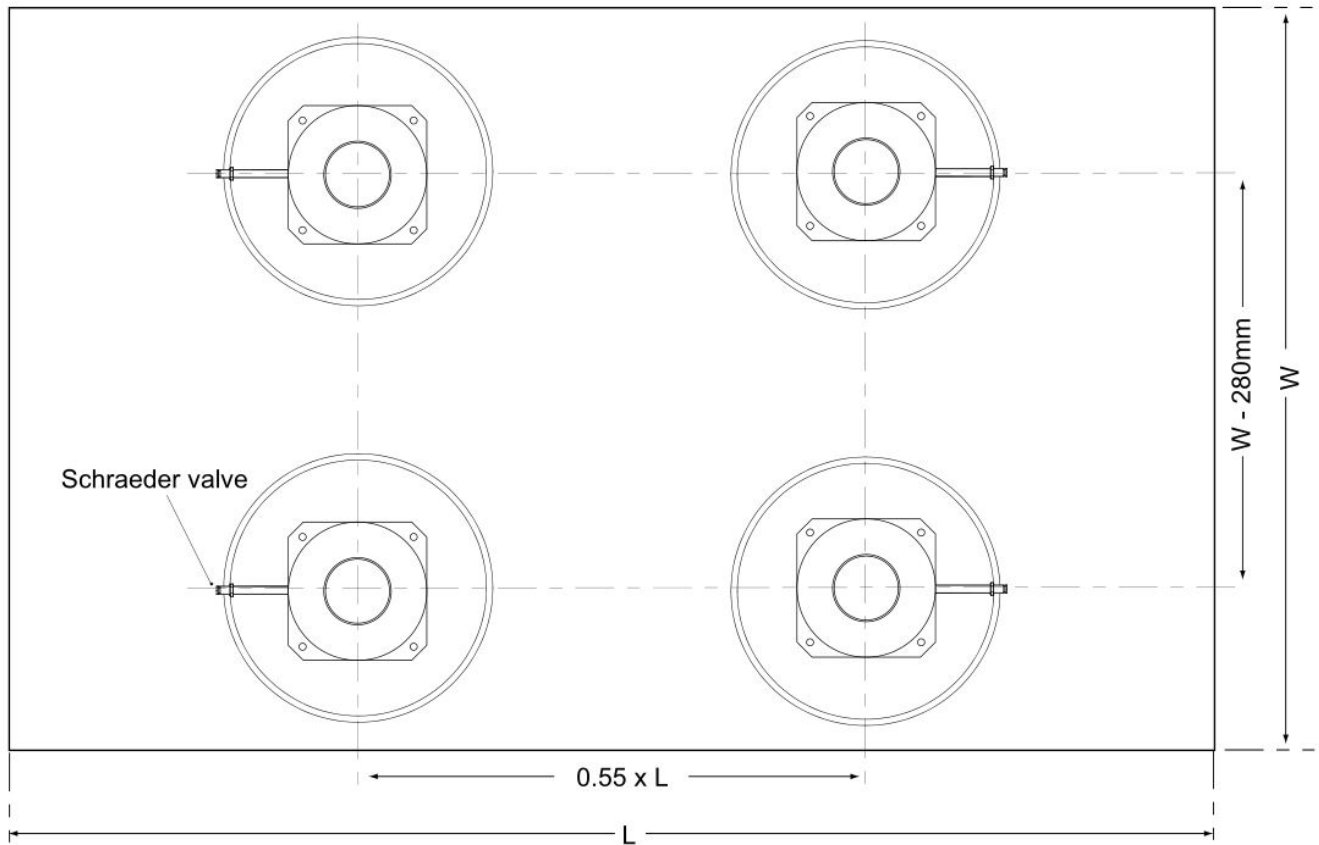

Fig. 3.1 Isolator positions
1. Position the isolators in approximately the correct position for the table – see Fig. 3.1 for dimensions. Note the position of the Schraeder valves and orientate the isolators as shown.